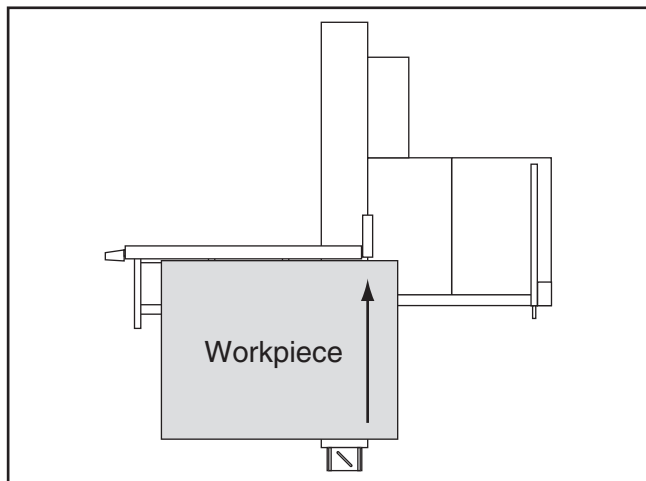

Figure 115. Crosscut with fence mounted in front position.
The Model G0764Z can crosscut full-size panels with the fence in the front or rear position, although it is easier to load full-size panels with the crosscut fence mounted in the front position (see **Figure 115**).
5. Load workpiece onto table saw in forward mounting location shown in **Figure 115**.
1. Install crosscut fence in rear mounting location shown in **Figure 115** and lock it in place.